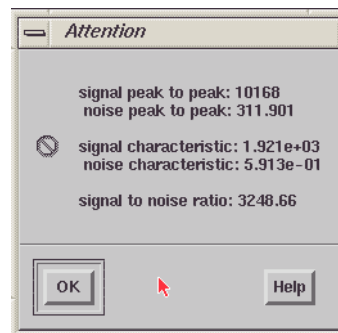

Figure 3-21 Displaying the signal to noise ratio.
5. **Check the S/N ratio.** The signal intensity, noise level, and the signal to noise ratio will be automatically measured and calculated. The results will be displayed in a message box. (See Figure 3-21.)